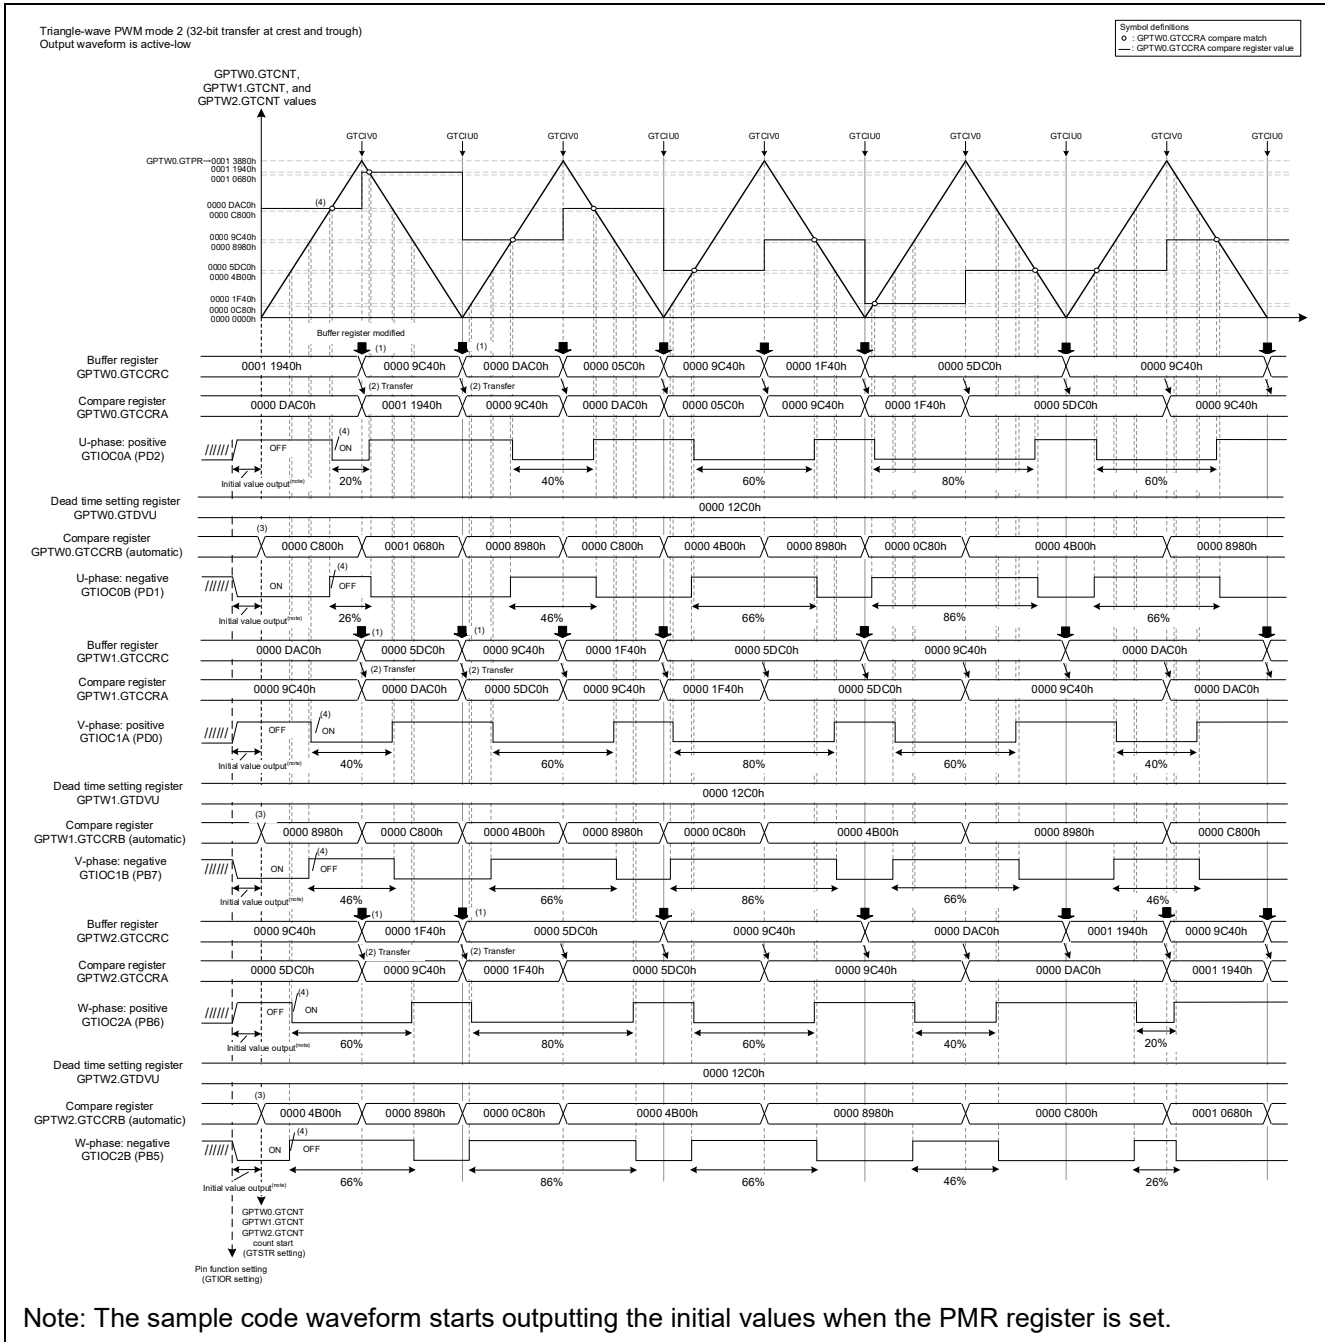

Figure 4.55 Sample Code Operations
- Refer to Figure 4.55 for details on duty change timing
The sample code operations are shown in Figure 4.55. The settings of the duty cycle are changed with each period by modifying the value of buffer register GTCCRC when a GTCNT counter overflow interrupt (GTCIV0) and a GTCNT counter underflow interrupt (GTCIU0) are generated ((1) in Figure 4.55).
This sample code uses triangle-wave PWM mode 2 to update data by transferring buffer register GTCCRC to compare register GTCCRA when a GTCNT counter overflow (crest) and a GTCNT counter underflow (trough) occur ((2) in Figure 4.55).
In addition, the GTCCRB register is automatically set according to the GTCCRA update because the automatic dead time function is used. The same values are set for the GTDVU and GTDVD. This sample code automatically sets the GTCCRB value at counting starts ((3) in Figure 4.55).
After counting starts, a compare match occurs between the compare register and the counter register, negative-phase output turns OFF, and then positive-phase output turns ON ((4) in Figure 4.55).
In addition, the same dead time period is secured as shown in the operations in Figure 4.55.